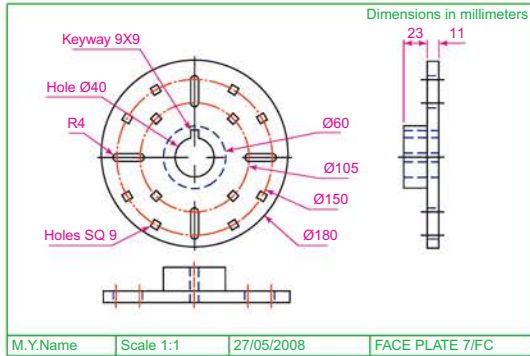
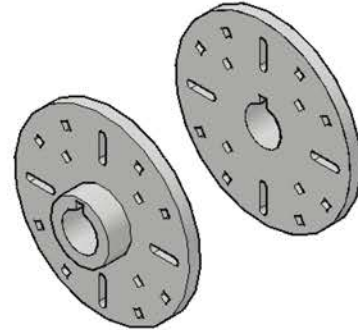

Fig. 10.20 Exercise 5 – dimensions
Fig. 10.21 Exercise 5
5. Working in a **Three: Left** viewport setting, construct a 3D model of the faceplate to the dimensions given in Fig. 10.20. With the **Mirror** tool, mirror the model to obtain an opposite facing model. In the **Isometric** viewport call the **Hide** tool (Fig. 10.21).